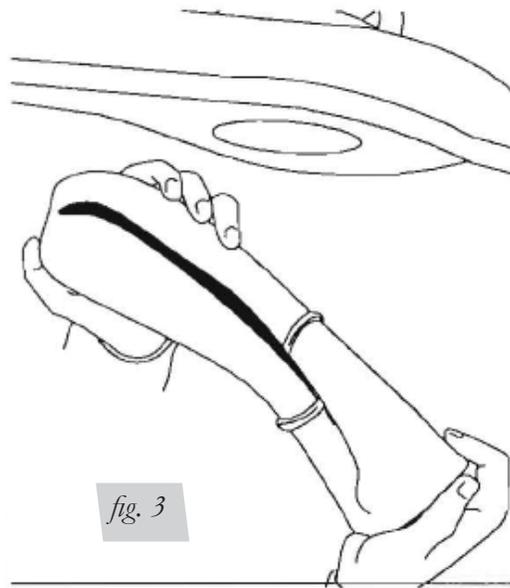

fig. 3
4. Roll or hot dog the deflated cylinder as shown in Figure 3.